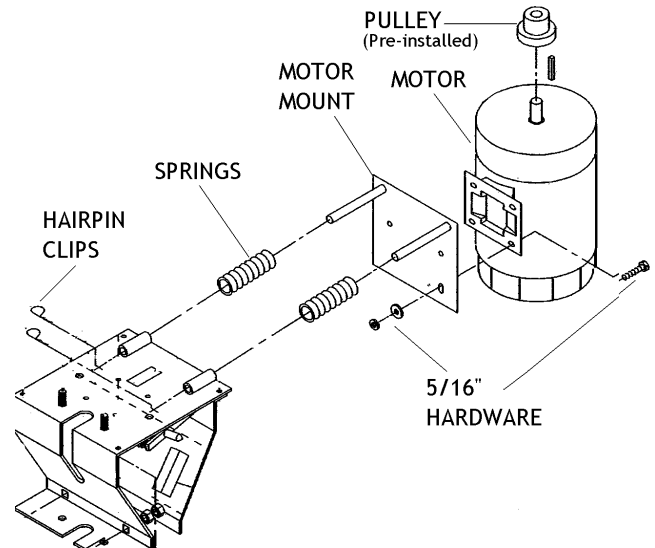

Figure 18-Motor Installation
- 26 Slide springs from hardware sack onto each rod on motor mount(s). **Figure 18.**
- 27 Bolt appropriate motor for each carriage onto motor mount with motor pulley facing up. Use 5/16" x 1" bolts and 5/16" flatwashers, lockwashers, and nuts and tighten with 1/2" wrench. **Figure 18.**
- 28 Slide motor mount rods through tubes welded onto carriages from outside of carriage. **Figure 18.**
- 29 Attach motor mount to carriage by inserting hairpin clips from hardware sack into holes on ends of motor mount rods. **Figure 18.**